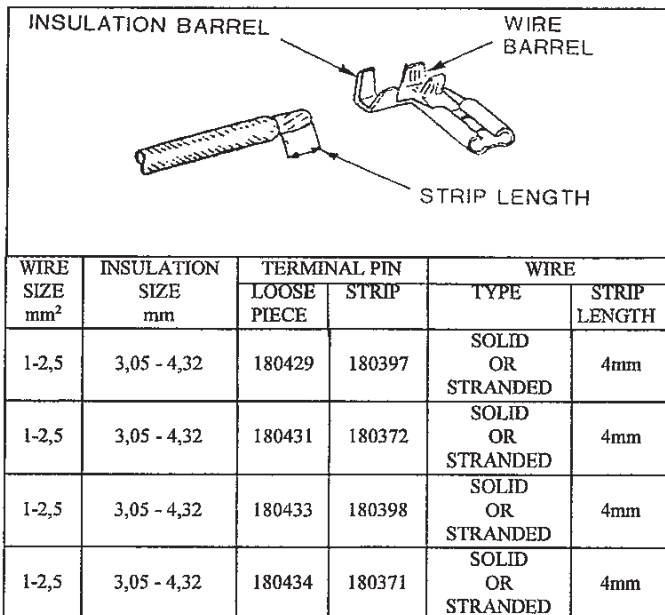

Figure 2
AMP* Hand Crimping Tool 180319 is designed to crimp Flag Faston and Flag Fastin Faston listed in Figure 2.
Refer to Figure 2 and select wire of the appropriate size and insulation diameter. Strip the wire to the dimension indicated, taking care not to nick or cut the conductors.
1. Crimp terminal as listed in Figure 2, using the correct wire size, according to Section 3, CRIMPING PROCEDURE.